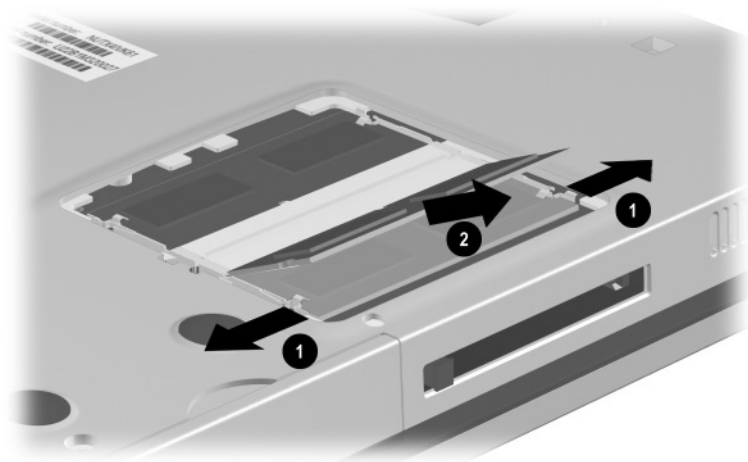

Figure 5-7. Removing a Memory Expansion Board
6. Spread the memory expansion slot retaining tabs to release the memory expansion board ❶ (Figure 5-7).
8. Remove the board by pulling it away from the connector at a 45-degree angle ❷.